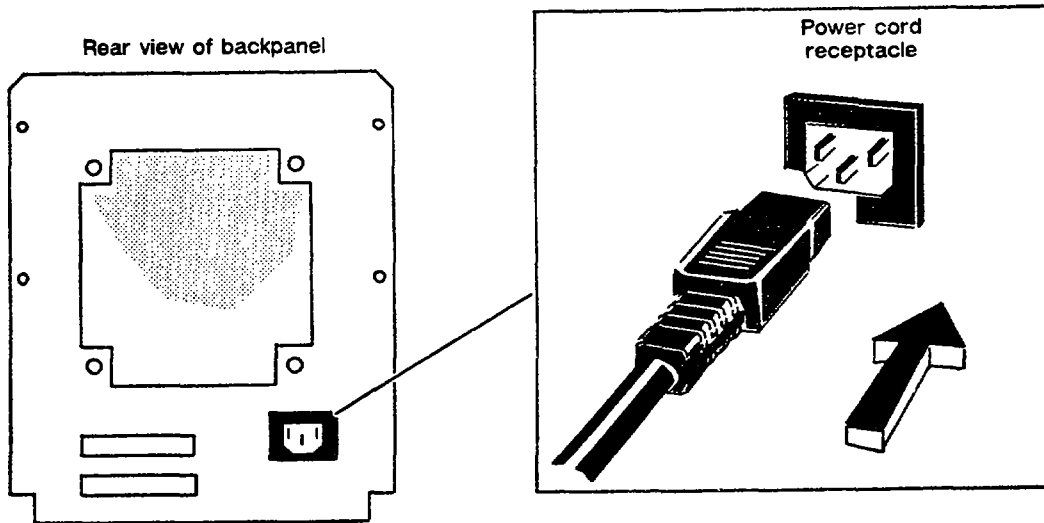
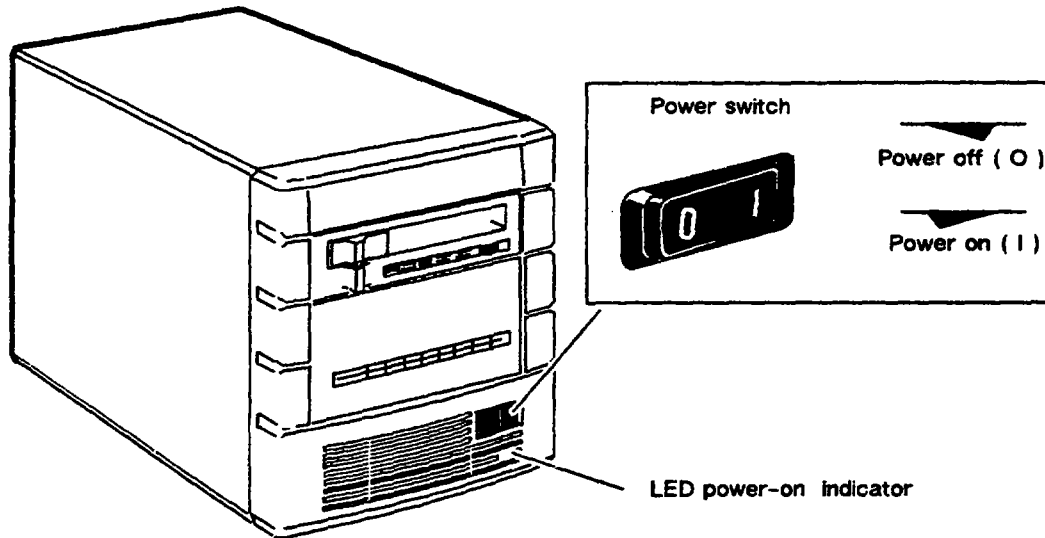

Figure 2-6 Connecting the Power Cord
Figure 2-7 LED Power-On Indicator and Power Switch
2. Make sure the power switch on each PHU is turned off. Figure 2-7 shows the location of the power switch. Then plug the power cord into the receptacle on the back of each PHU, as shown in Figure 2-6.
Figure 2-7 shows the LED power-on indicator and shows how to turn on the PHU. Once you have connected the PHU to the computer, follow the steps in the power-up